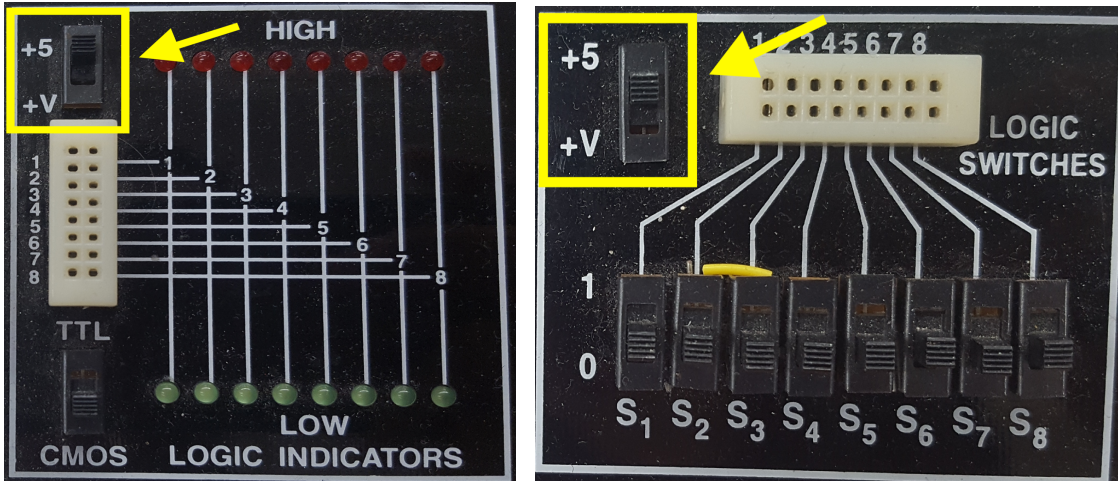

Figure 3: Logic Indicators and Switches.
- *Global Specialties Breadboard*: Use the ohmmeter mode of the multimeter to confirm that horizontal rows of five holes are connected. Vertical columns of five holes are connected and intended for power and ground, but note that the top and bottom half of each column is not connected on this breadboard, making it easy to accidentally not power your circuits. Refer to the video for a demonstration. You can apply inputs using the logic switches and check outputs using the logic indicators shown in Figure 3. Be sure to configure the switches and indicators for 5 volt CMOS levels by making sure the voltage switches are both in the +5 volt position (not variable voltage) and the logic family switch is in the CMOS position. Refer to the video for a demonstration.